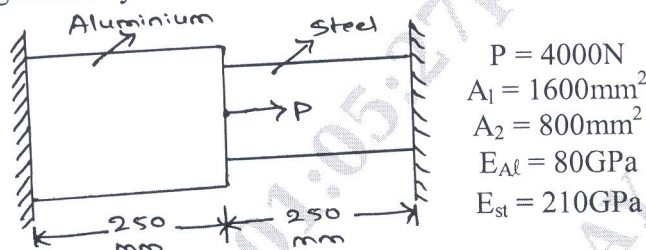

Fig Q5(a)
- 5 a. Determine the Nodal displacement vector for the bar shown in Fig Q5(a), using penalty approach of handling boundary conditions.